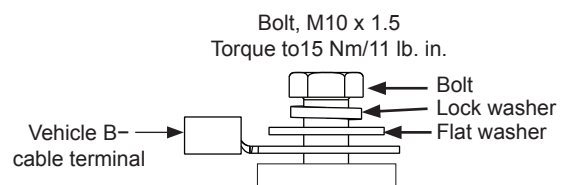

Figure 4: B- Terminal Hardware Stacking Order
6. Connect vehicle B- cable to alternator B- terminal and install terminal hardware in stacking order shown in Figure 4. Torque hardware to 15 Nm/11 lb. ft.